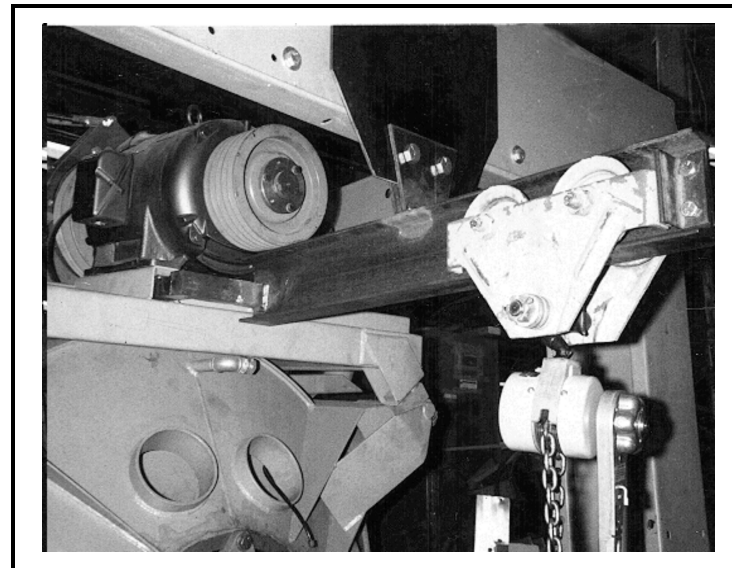

FIGURE 6 (MSSMA403AE)
2. Install the following components of this fixture in the order indicated, as shown in FIGURE 6 .